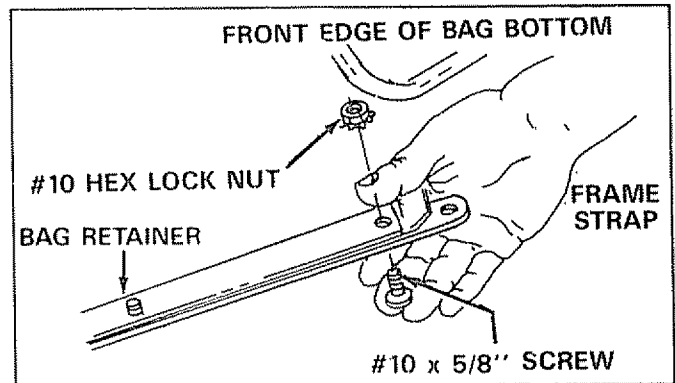

FIGURE 16
- Assemble the bag frame strap (bottom) and bag retainer (top) to the front edge of bag bottom. Place the bag retainer on top and frame strap on bottom. Secure with four #10 x 5/8" slotted screws, and #10-32 hex lock nuts. See figure 16.